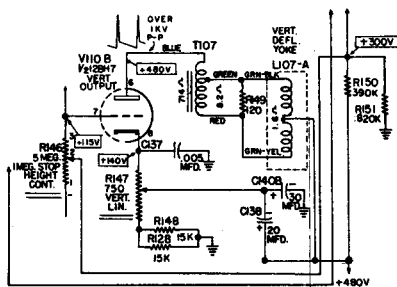

Fig. 37 — Crosley
**Avoiding excessive height (see Fig. 37).**